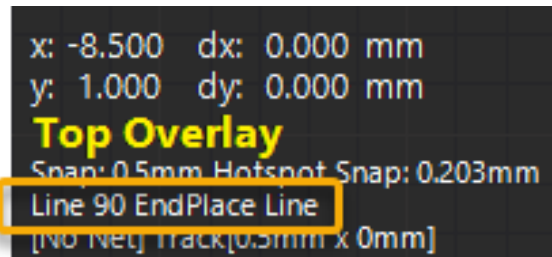

Figure 42. HUD displaying current line mode of 90 degrees
67. Press **Shift + Spacebar** to change the shape of the corner and **Spacebar** to change the orientation until the HUD displays **Line 90 EndPlace Line** as shown in Figure 42.